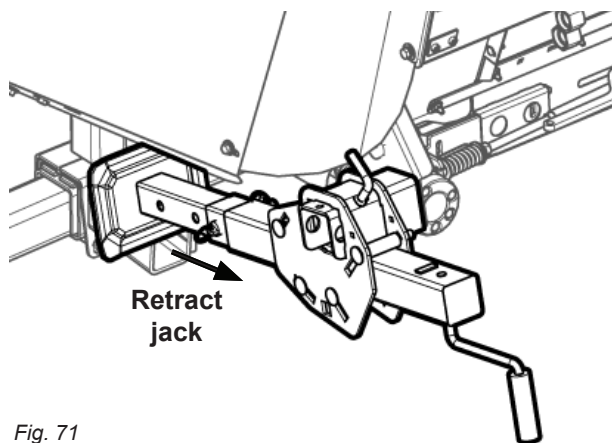

Fig. 71
6. To convert the hitch from storage to transport mode, remove the safety chain from the storage stub. Release the pressure on the jack, loosen the hitch clamp, and slide the jack off of the stub. ("Fig. 71")